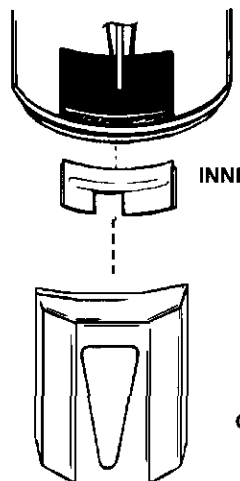

Figure 9
10. Replace (or close) inner door. (Figure 9)